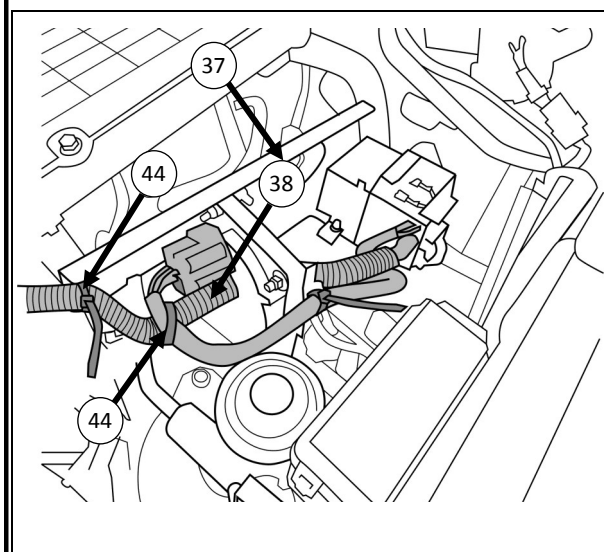

Figure 21: Route Winch Controller Harness
- Secure COT tube section of Winch Controller Harness (Item 11) to Cable Positive (Item 38) near 6-pin connector with 1X Cable Tie 200mm (Item 44) as shown in Figure 21.